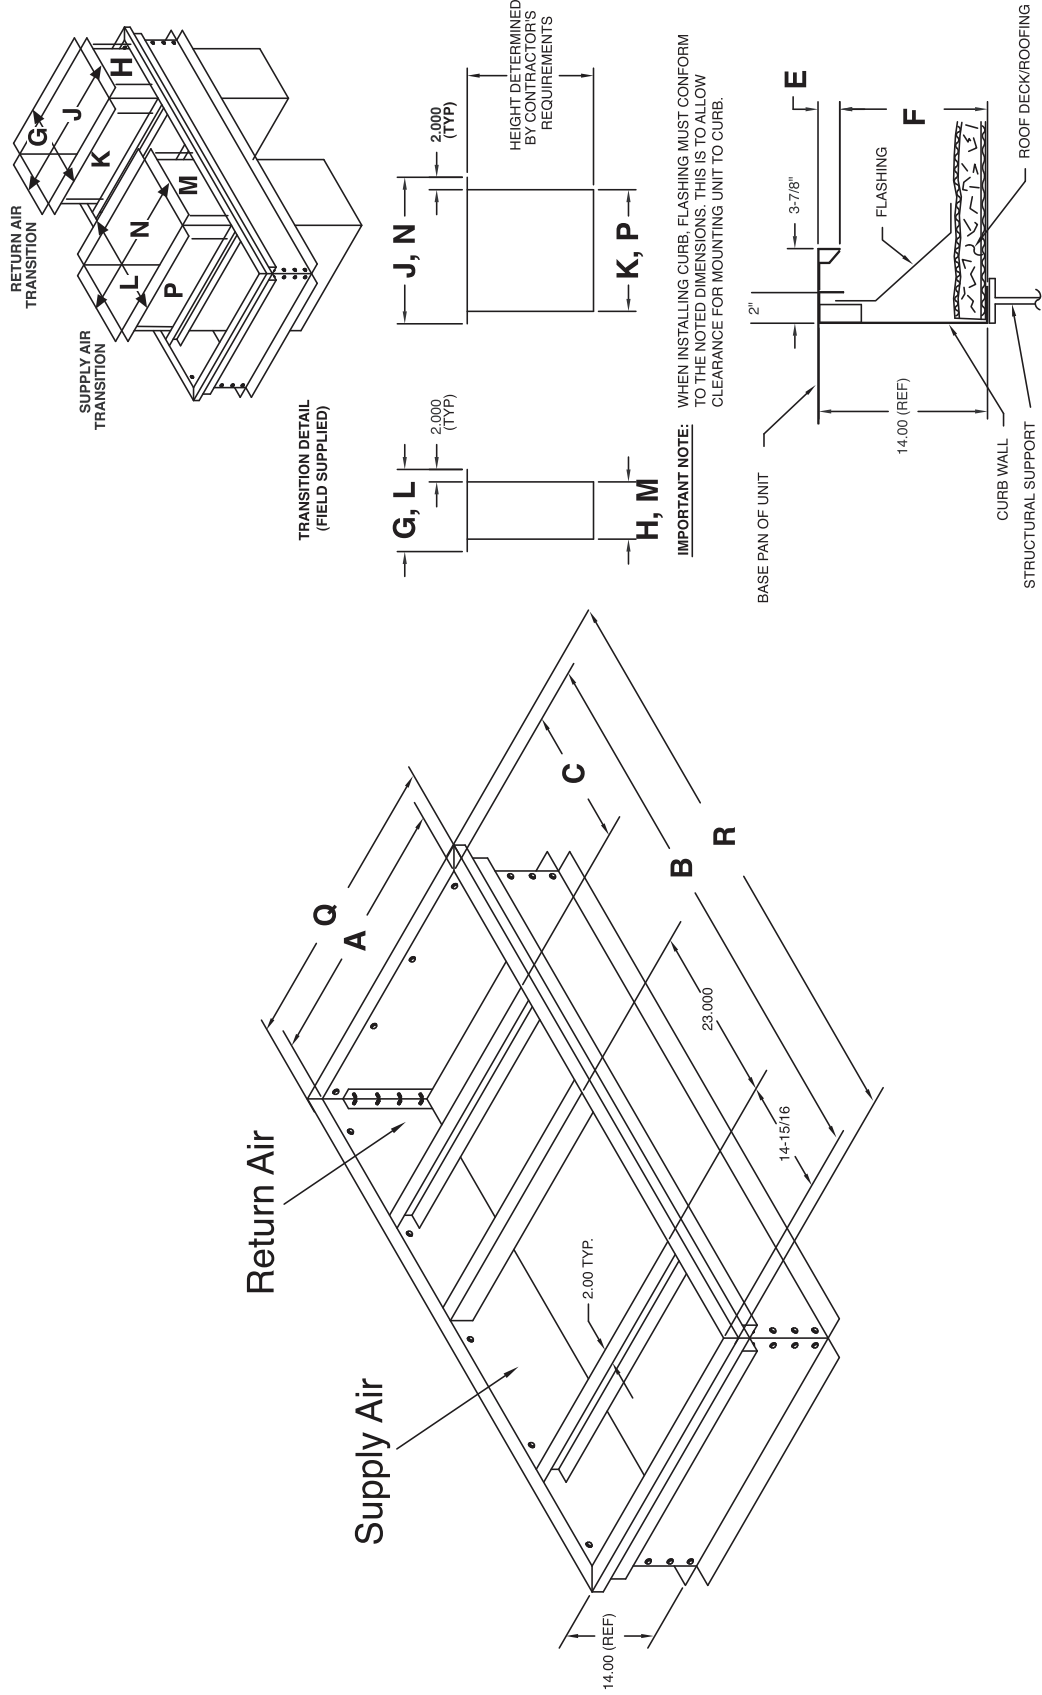
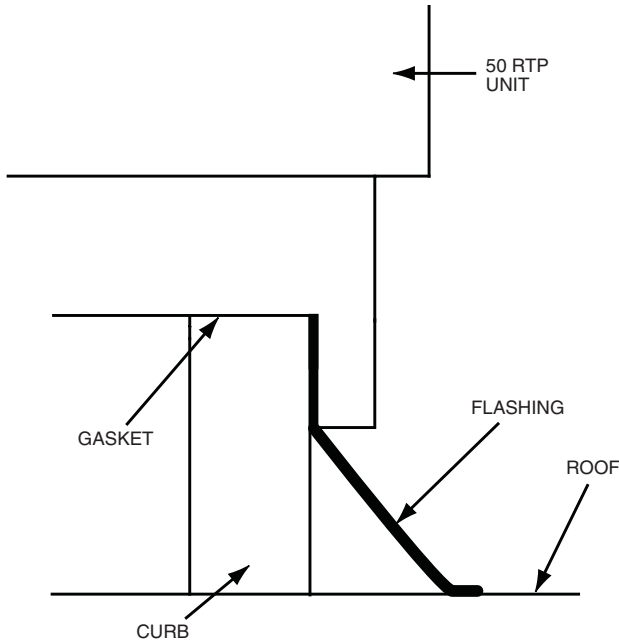

Fig. 4 — 50RTP Roof Curb Dimensions
Fig. 5 — 50RTP Curb Installation
Step 3 — Locate Unit — The following guidelines should be considered when choosing a location for WSHP. Refer to Fig. 1-3 for unit dimensional data. See Fig. 4 for accessory roof curb dimensional data.
Step 4 — Mount the Unit — For proper operation, units must be mounted on a roof curb as shown in Fig. 5. Roof curb dimensional data is shown in Fig. 4. Follow these guidelines when installing the roof curb: